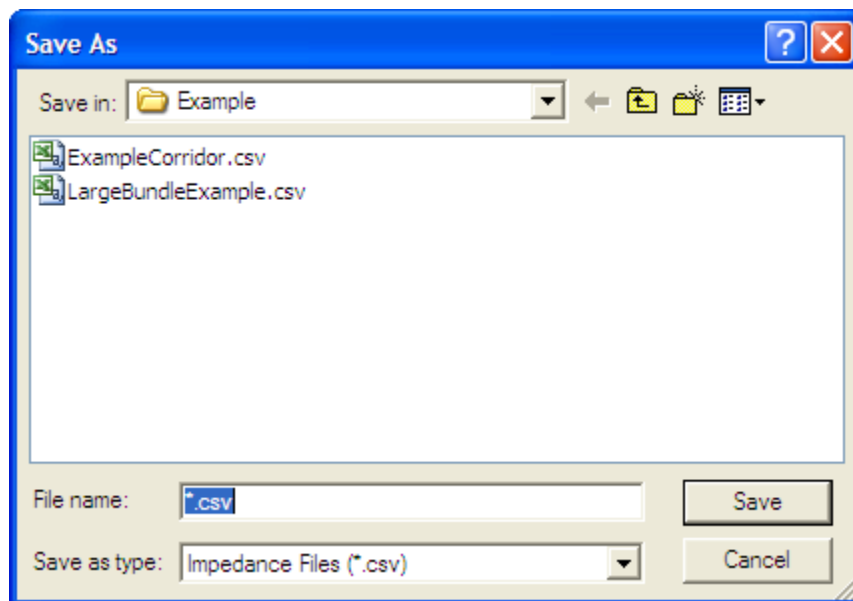

Figure 1-39. Save Results Dialog
2. The window illustrated in Figure 1-39 appears on the screen.